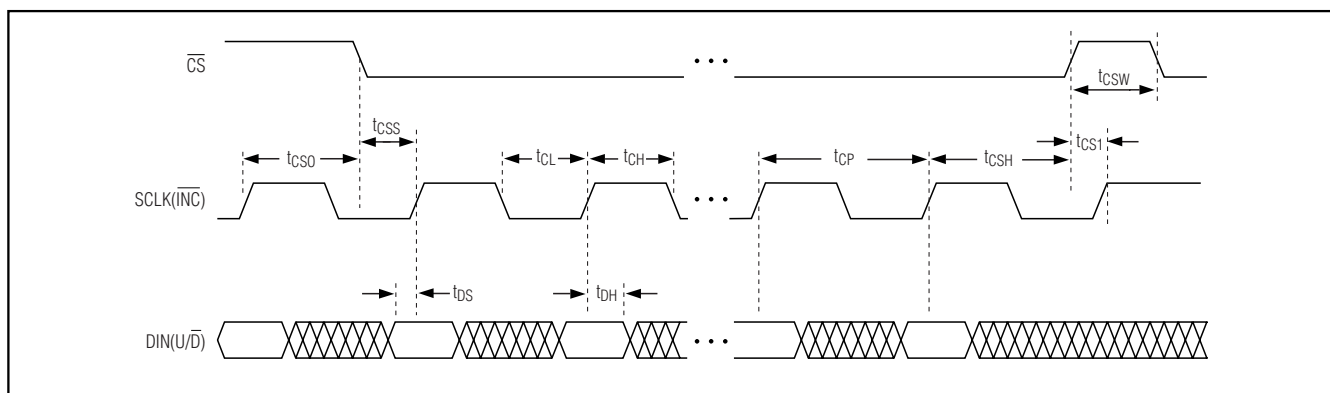

Figure 3. SPI-Compatible Serial-Interface Timing Diagram (SPI/UD = 1)
Drive SPI/UD high to enable the 3-wire SPI-compatible serial interface (see Figure 3). This write-only interface contains three inputs: chip select ($\overline{CS}$), data in (DIN(UD)), and data clock (SCLK(INC)). Drive $\overline{CS}$ low to load the data at DIN(UD) synchronously into the shift register on each SCLK(INC) rising edge.